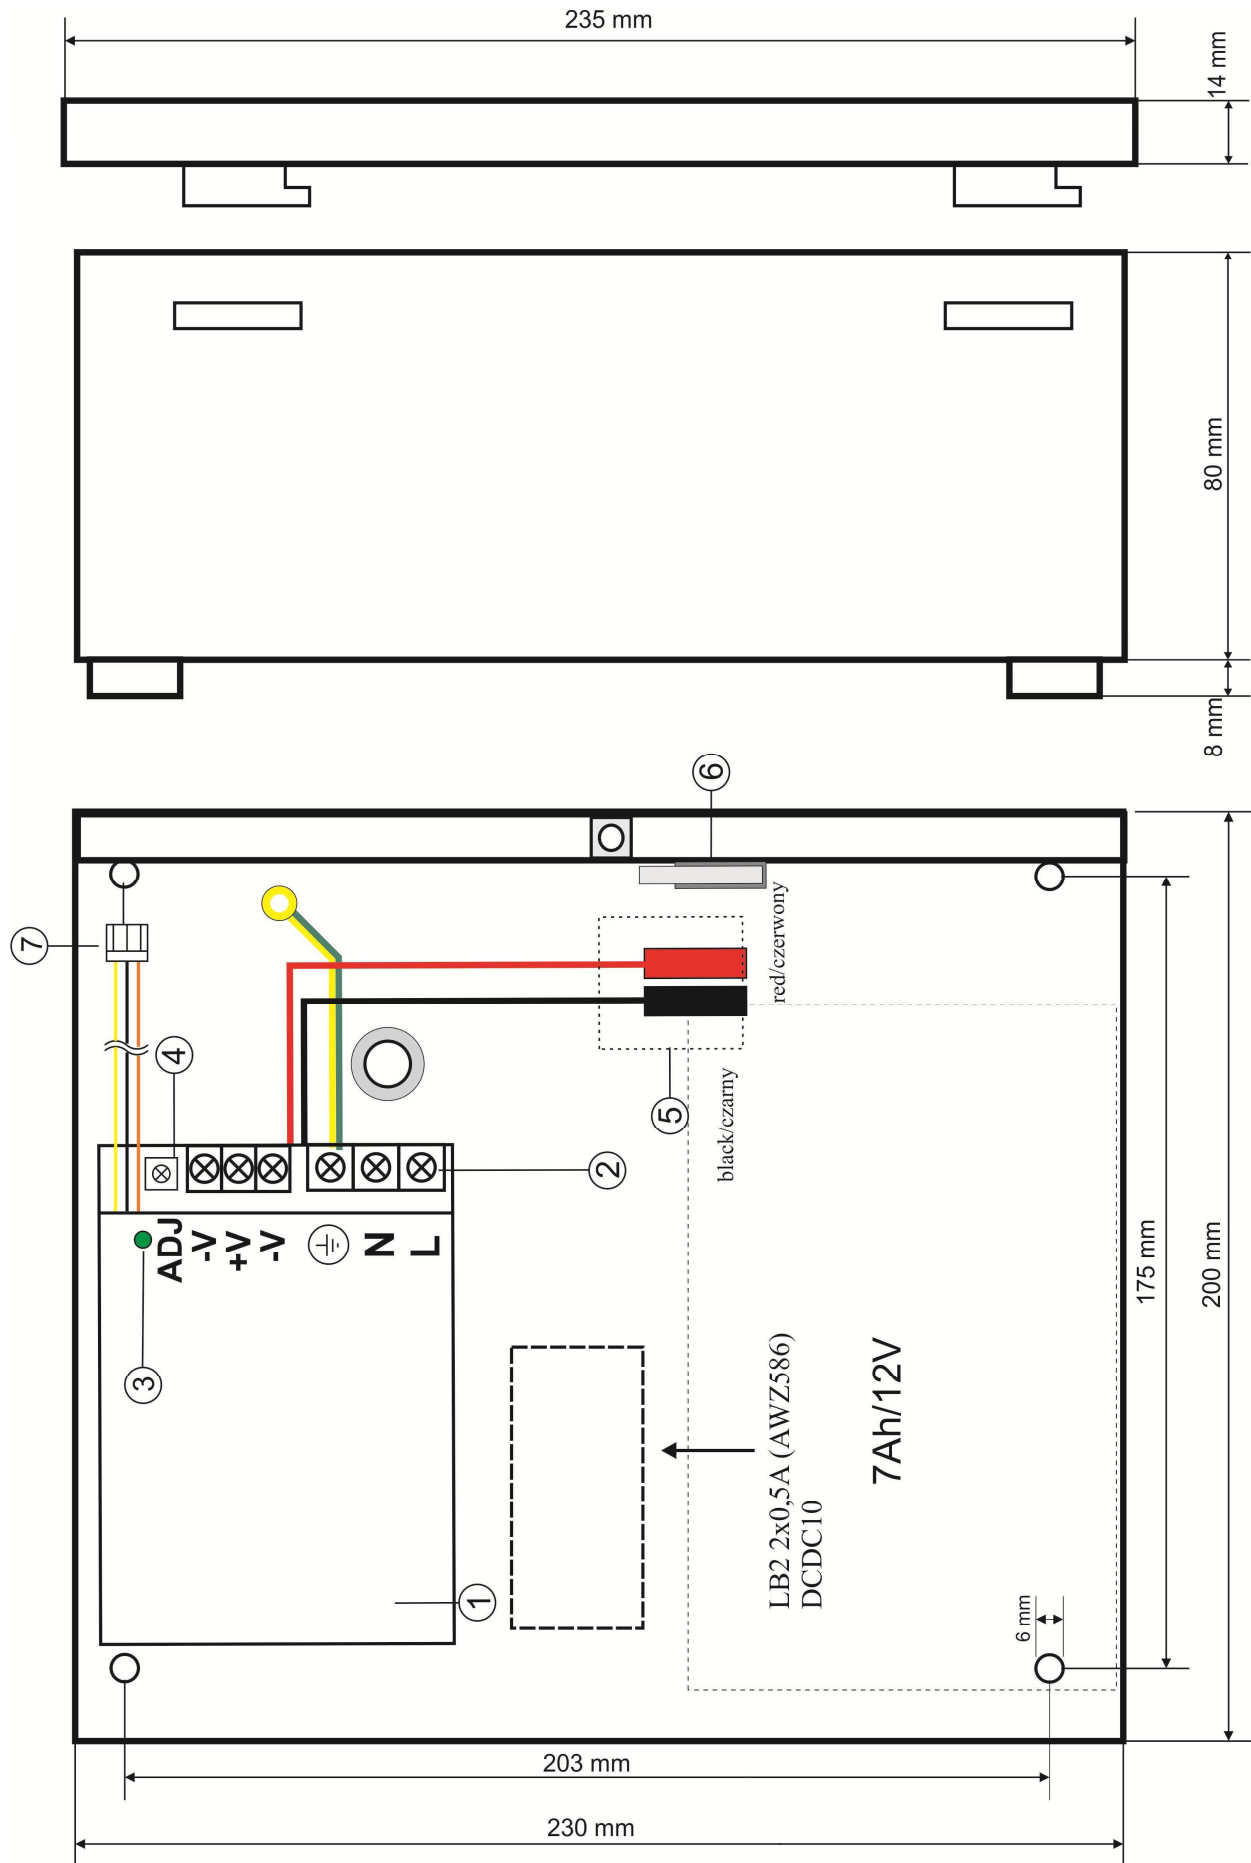

Fig.2. The view of the PSU.
1.3 Description of PSU components and connectors (tab.1, tab.2, fig.2).
Part no. [Fig. 2]	Description
Part [Fig. 2]	Description
Fixation	see Fig. 2